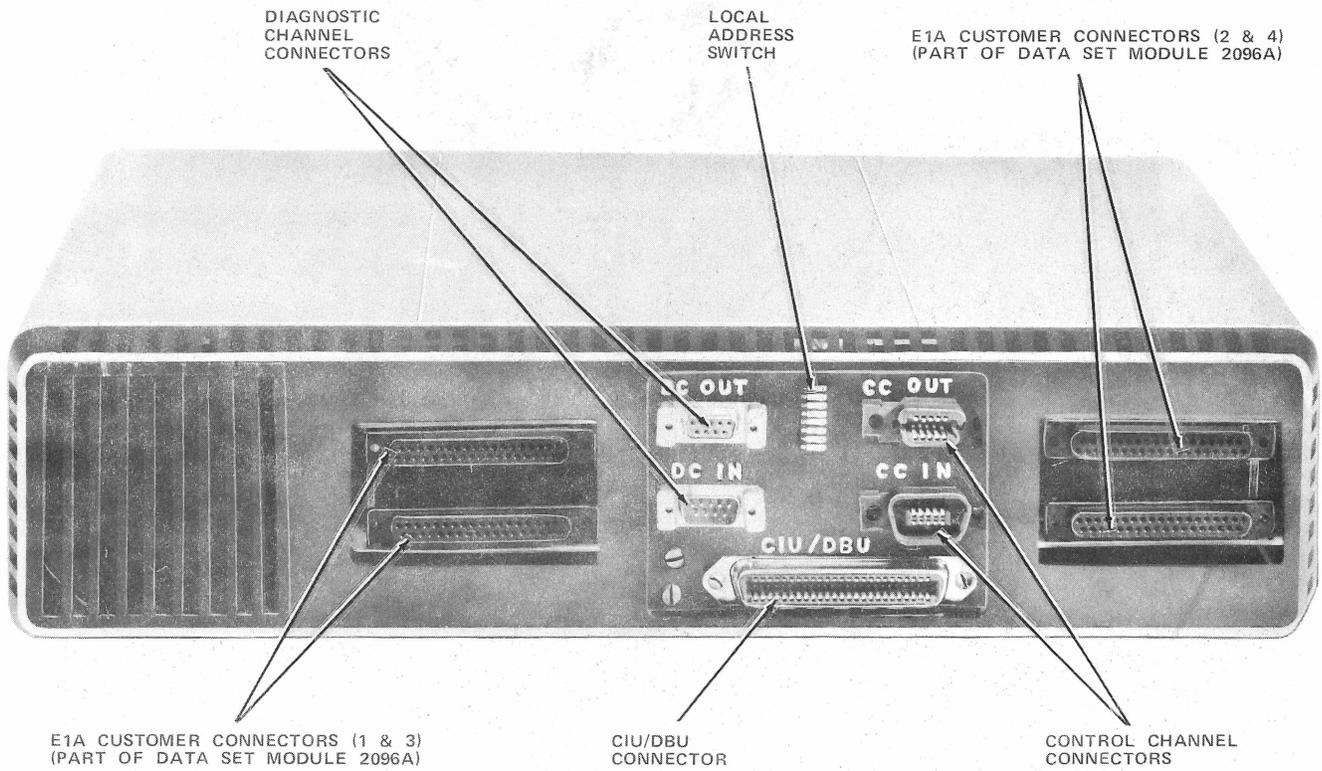

Fig. 3—63A1 Data Mounting Rear View
2.02 The 63A1 data mounting can house any one of the data set types with a maximum power dissipation of 80 watts. The 63A1 data mounting is equipped with plastic covers on front and rear, a fan, a transformer, and a backplane printed wiring board assembly. The fan is used to remove heat from the data mounting and the transformer is used to convert the incoming 117 Vac to 18 Vac (on each side of a center-tapped transformer) for use by the data set. The ac power cord is connected to the bottom of the data set. A spare fuse is located near the ac input receptacle. The rear of the data mounting (Fig. 3) contains five